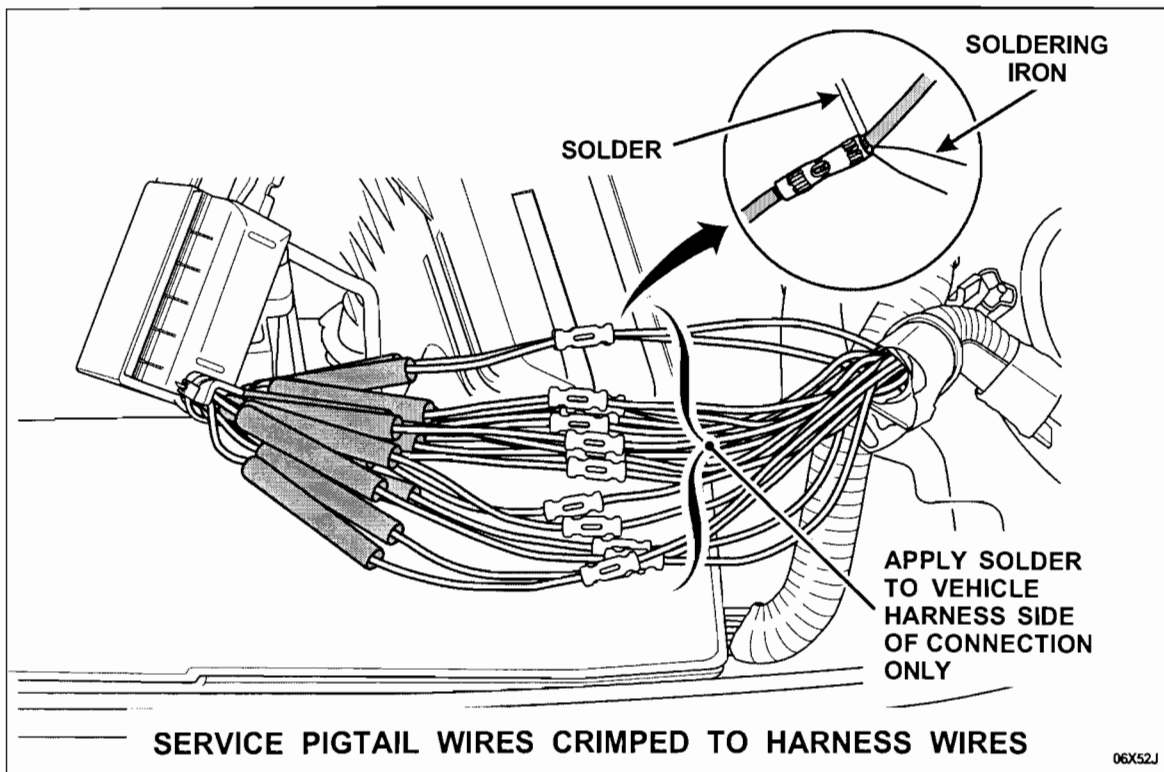

FIGURE 20
4. Working with one wire at a time, match the wires from the service pigtail to the vehicle harness. Insert the stripped end of each wire into the splice connector and crimp using the crimp tool provided in the Rotunda Wire Splice Tool Kit 164-R5903. See Figure 20.